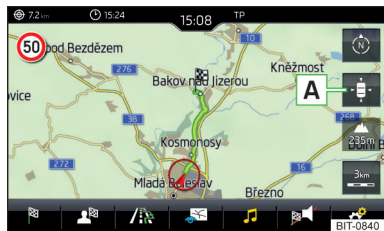

Fig. 198
- To **centre the map**, tap on function surface $\hat{\Theta}$ **A** » Fig. 198.